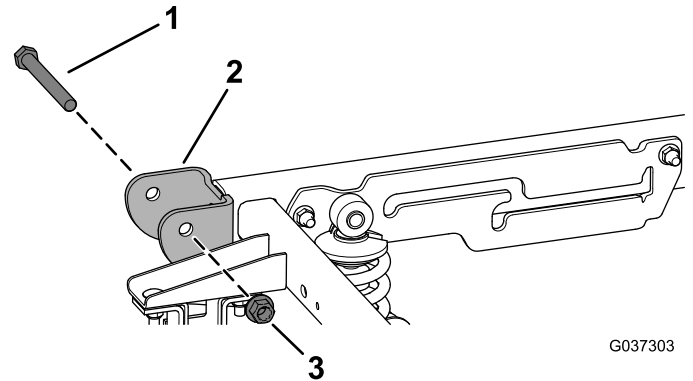

Figure 4
5. Remove the 2 pivot bolts (1/2 x 4-1/2 inches) and 2 locknuts (1/2 inch) from the pivot bracket located at the rear of the machine (Figure 4).